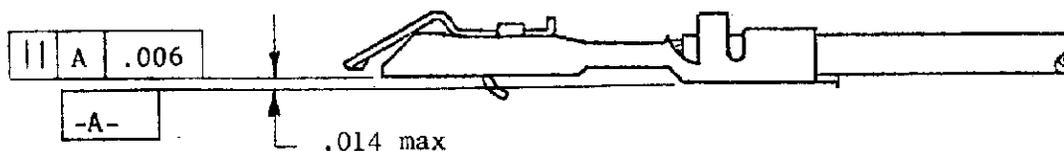

Figure 2
- (1) The contact, including the cutoff tab and burr shall not be bent below the datum line more than the amount shown in Figure 2.